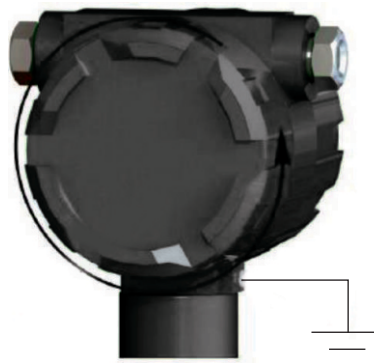

Figure 2.13 Grounding
2.4.5 Grounding Transient processes induced by lightning, welding, big power-consuming equipment or switches may lead to distortion of the flowmeter's measuring or damage it. For protection from transient processes one should provide a connection of the ground terminals located on the transmitter body (see Figure 2.13), with the ground through a wire, designed for operation under high currents.